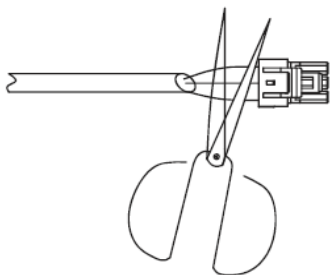

Fig. 20 —Shearing Outdoor Connector
1. Cut connector on outdoor unit side as shown in Fig 20.